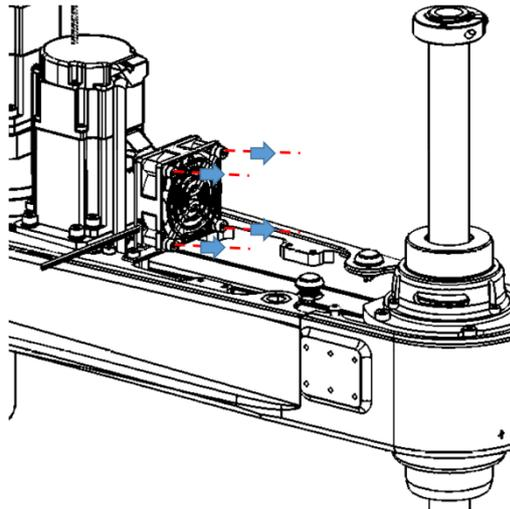

Figure 5-25 Removal of the fan from the mechanical arm 2
Step 3 Use the cross screwdriver to unscrew the fastening screws from the brake PCBA and remove them, as shown in Figure 5-25.